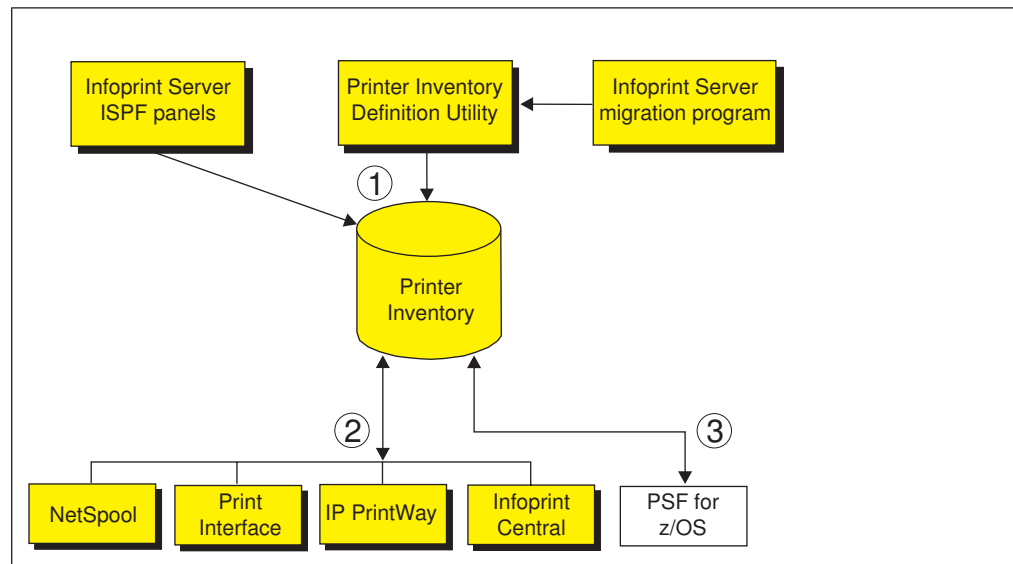

Figure 2. Printer Inventory Manager system diagram
- Figure 2 on page 4 and the list of components in bullet 2
Figure 2 shows how the administrator can create objects in the Printer Inventory and which components of Infoprint Server use the Printer Inventory.